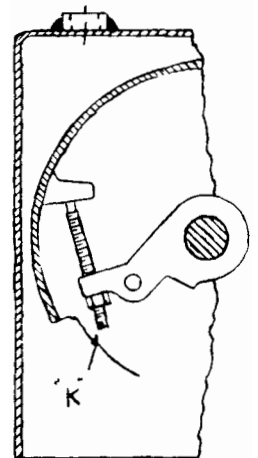

FIG. 2
8. There are TWO OPERATING SPRINGS, one inside of the other. The mechanism is shipped with both springs PARTLY WOUND. The inner spring acts only through a maximum of 30 degrees and its purpose is to help to break ice or to overcome stiffness due to cold weather. TO WIND THE INNER SPRING, TRIP THE MECHANISM and screw stud "K" (Fig. 2) in crank to which the upper end of the spring is attached. Lock with lock nut.